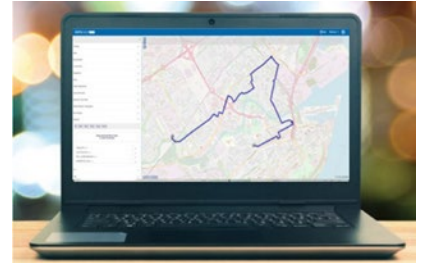

Figure 35: Import, draw and edit routes from any workstation through web browser.
- Draw cable routes and interconnecting sites directly over the background map from any device on a web browser (no dedicated workstation application required) by any authorized user (Figure 35).